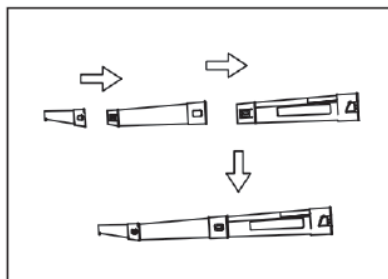

Fig.2
- Assemble the three-piece blowpipe (5) as illustrated (Fig.2). The parts can be felt to lock into place